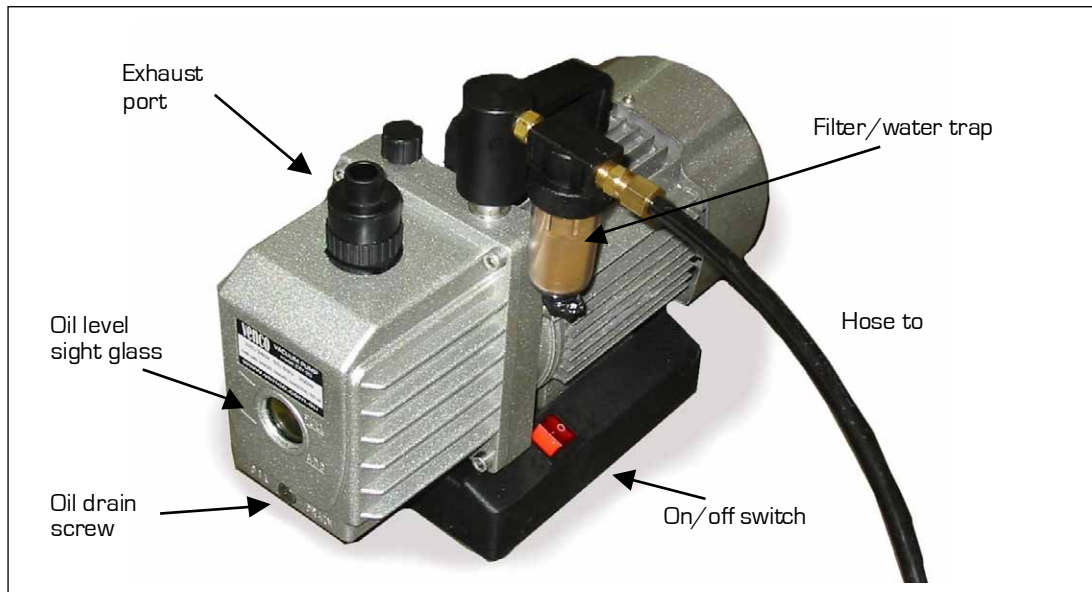

Figure 5: Vacuum hose and filter location on the vacuum pump
- 1) Apply a small amount of grease onto the brass threads. Screw the filter / water trap onto the on the vacuum pump. The clear bowl should face downward, as in Figure 5.